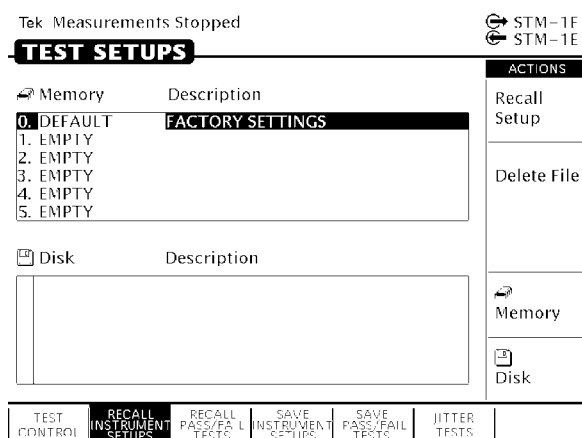

Figure 3 16: The RECALL INSTRUMENT SETUPS Page
- H To recall setups from memory rather than disk, select **Memory** to highlight the Memory listing (see Figure 3 16).